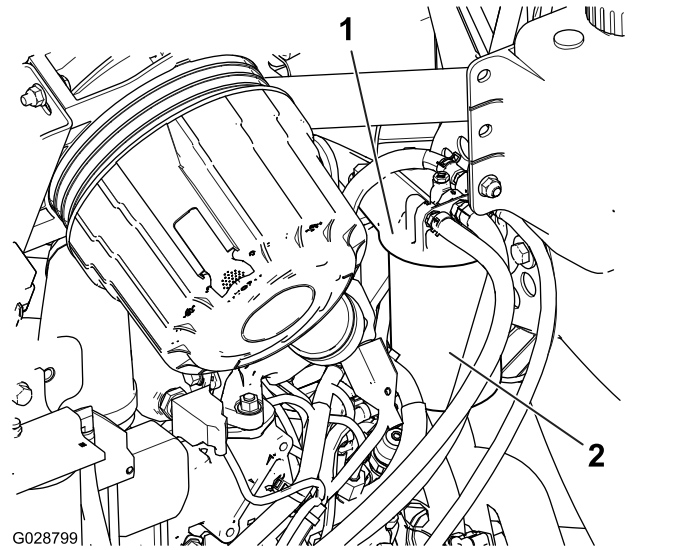

Figure 89
1. Clean the area around the fuel-filter head (Figure 89).
2. Remove the filter and clean the filter head mounting surface (Figure 89).